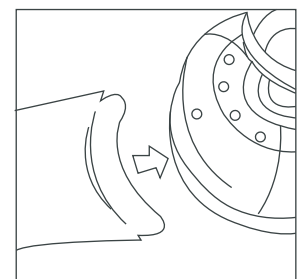

Fig 4
1. Insert the fan blades to the motor installation slot. Firm pressure is needed. see Fig 4).
Secure all fan blades using ST<x16 screw by Philips screwdriver until tightened it on the motor cover. Fig 4